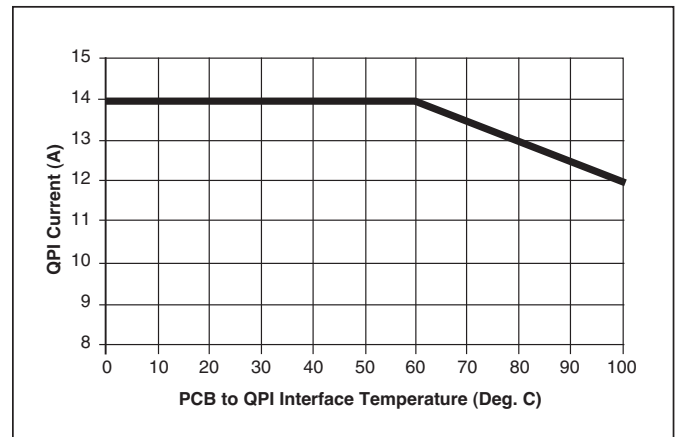
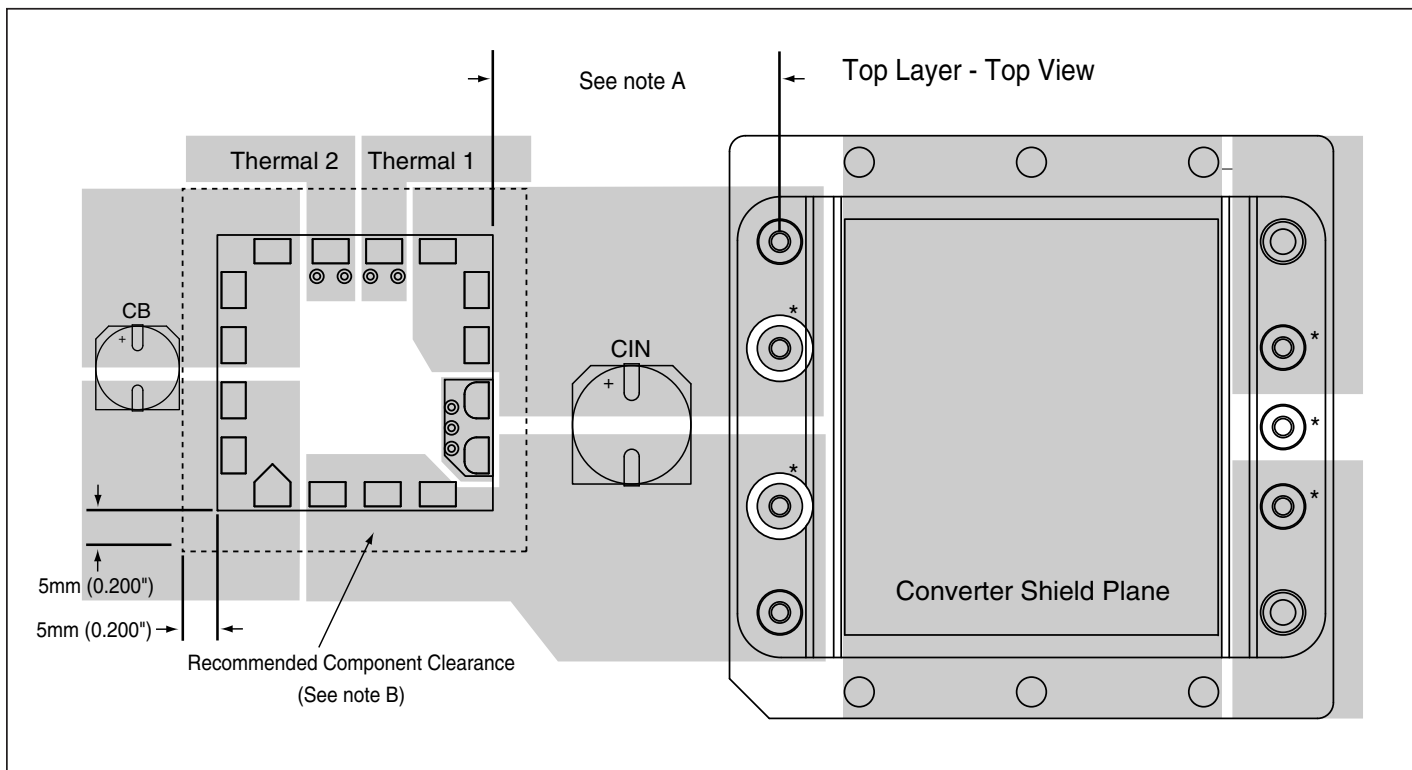

Figure 5 – QPI-5 current derating curve.
Figure 9 – Recommended layout for top layer of PCB. Pattern shows optional pins (*) dependent on converter used in design.
- -40° to +100°C PCB temperature (See Fig. 5)
Note 1: Refer to Figures 9 & 10 for PCB layout guidelines to achieve this thermal resistance when reflowed onto the PCB.
Note 3: Refer to Figure 5 for current derating curve.
Application of the QPI-5 requires PCB layout practices similar to those used with passive EMI filters. The circuit in Figure 6 and the PCB layout in Figures 9 & 10 should be used as a design guide to ensure successful application of the QPI-5. Refer to the application note QPI- AN1 for additional PCB layout recommendations.
The current derating curve shown in Figure 5 should be used when the PCB temperature in close proximity of the QPI-5 exceeds 60°C. For example, the QPI-5 will support up to 13 A of current or 308 W from a 28 Vdc bus at an 80°C interface temperature. Temperature should be measured at the PCB interface to the QPI-5 on the Bus +/- pads or the QPI+/- pads. Refer to Figures 9, 10 & 12 for PCB layout recommendation.
Figure 12 – Recommended PCB solder mask dimensions and layout. Use 1.3mm clearance around shield pads 5 & 6 to adjacent lands. See Figures 9 & 10 for recommended connection layouts.